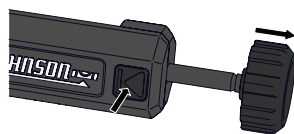

Figure 23
1. To mount the clamp to a grade rod, press the clamp release button and pull the clamp knob out. (Figure 23)